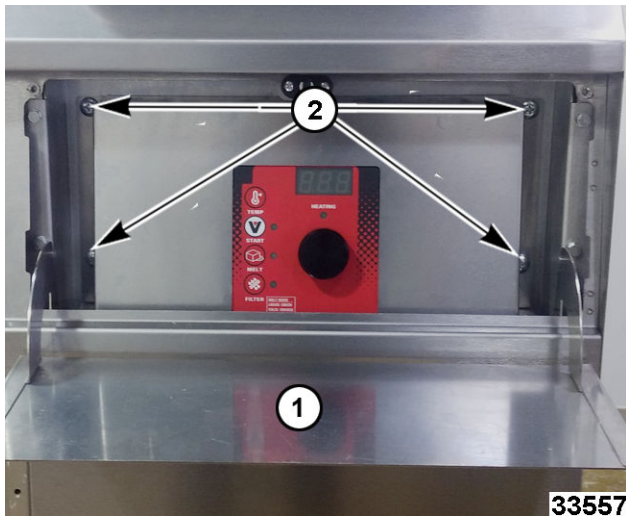

Fig. 15
1. Open access door (1, Fig. 15) to analog control board.
2. Remove control panel mount screws (2, Fig. 15).